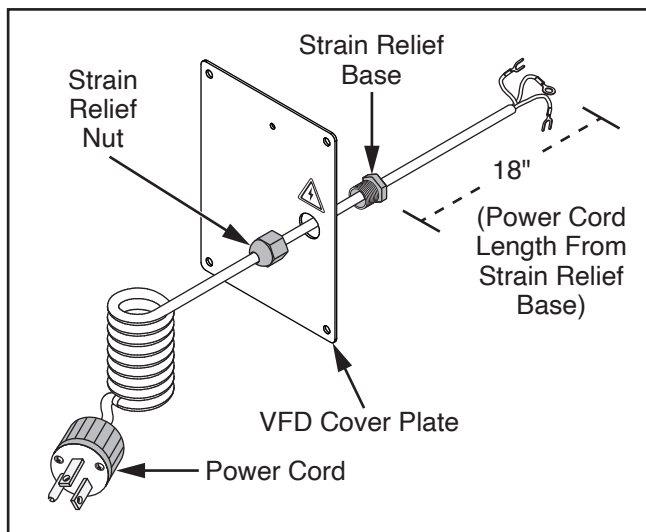

Figure 8. Location of included VFD cover plate components.
7. Separate strain relief nut from strain relief base, then insert end of power cord through strain relief and VFD cover plate included with kit, as shown in **Figure 8**.
8. Verify there is a *minimum* of 18" of exposed power cord length from strain relief base, then hand-tighten strain relief on base (see **Figure 8**).